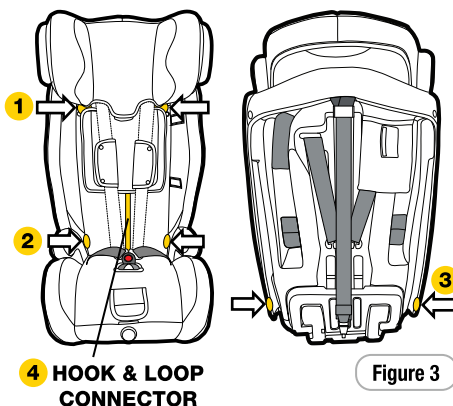

Figure 3
Step 2: Unclip the press studs location 1 (refer Figure 3).
Step 4: Disconnect the 4 hook & loop connector located below the headrest/apron and remove the cover (refer Figure 3).